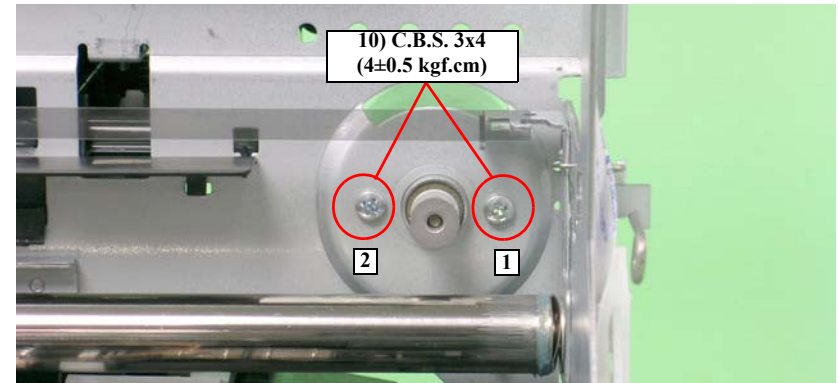

Figure 4-133. Removing the CR Motor
- Tighten the screws in the order shown in Figure 4-133.